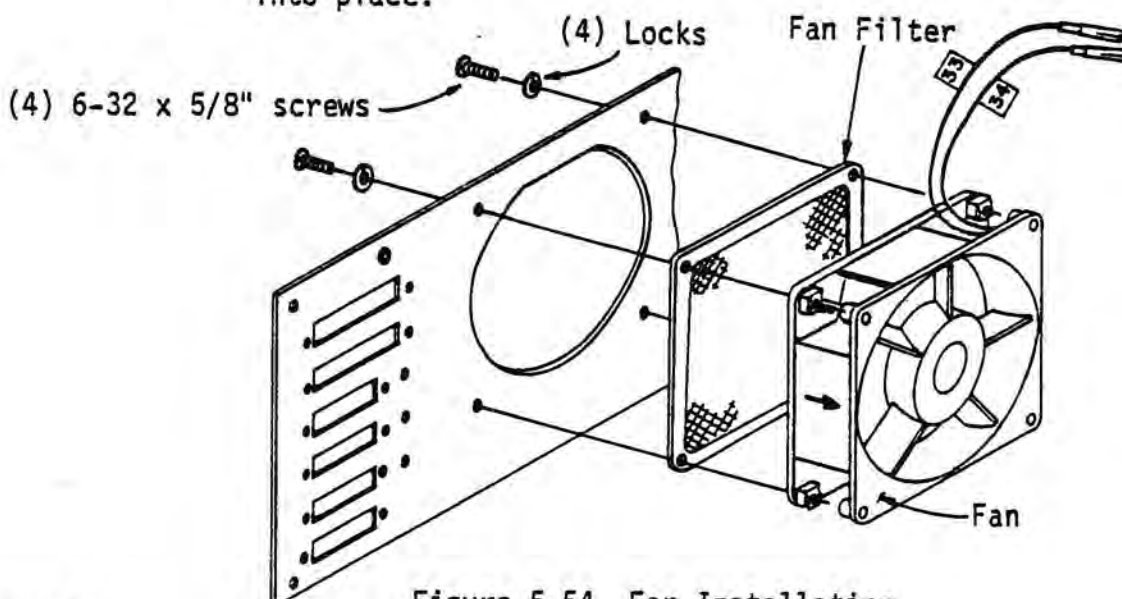

Figure 5-54 Fan Installation
3. Mount the fan and screen (Figure 5-54) to the back panel. The air flow arrow should point toward what will be the interior of the computer. The plug should be in the lower right corner. Use 4 #6-32 x 5/8" screw and 4 #6 snap-on nuts.